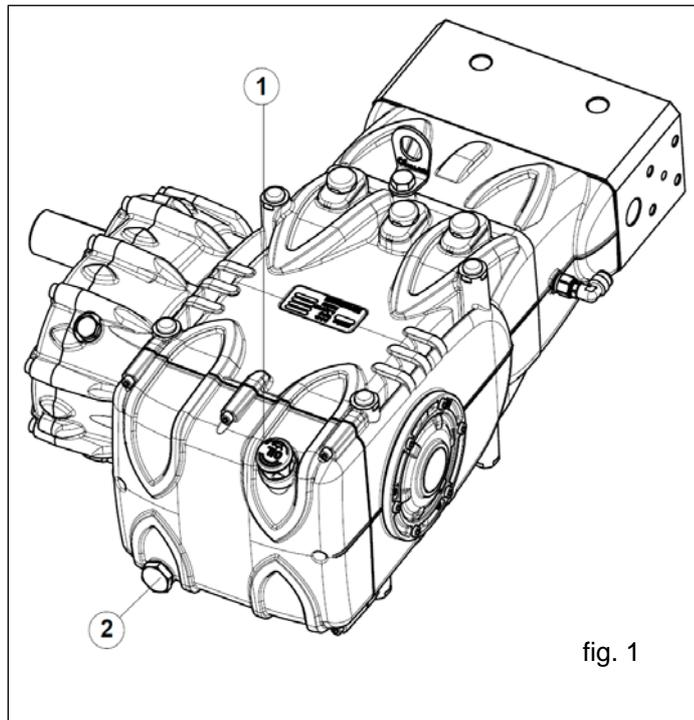

fig. 1
To take out oil, remove: the oil dipstick pos.① and then that plug pos.② , fig. 1.